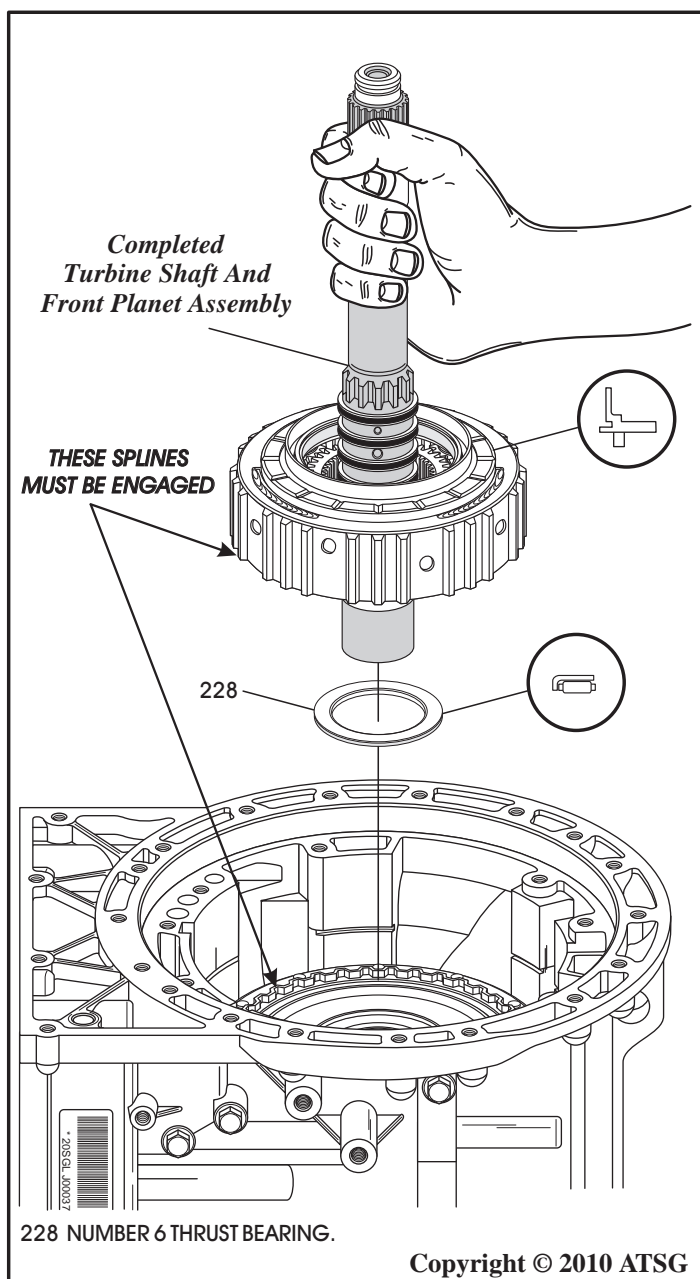

Figure 214
31. Ensure the number 6 thrust bearing is still stuck to back of the completed turbine shaft and front planetary assembly, as shown in Figure 214.
32. Install the completed turbine shaft and front planetary, as shown in Figure 214.
*Note: Splines of the front carrier must engage into K1 clutch housing (See Figure 214).*